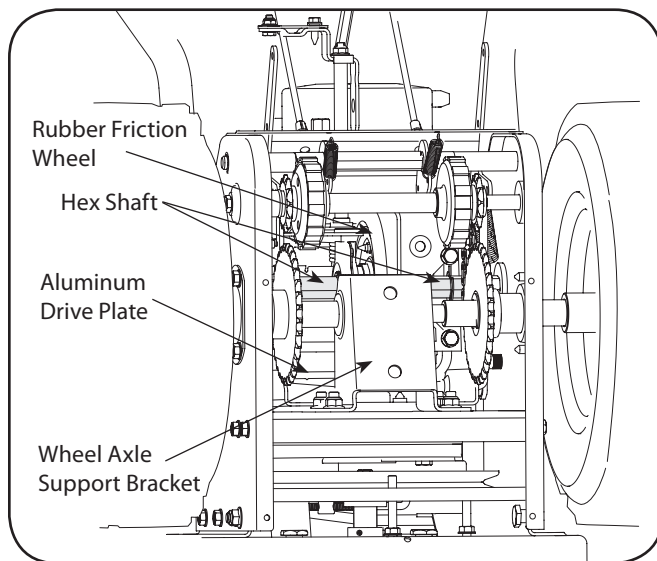

Figure 6-3
At least once a season or after every 25 hours of operation, remove rear cover. Lubricate all chains, sprockets, gears, bearings, shafts, and the shifting mechanism. Use engine oil or a spray lubricant. Refer to Figure 6-3.
3. Apply a light coating of engine oil (or 3-in-1 oil) to the hex shaft. See Figure 6-3.